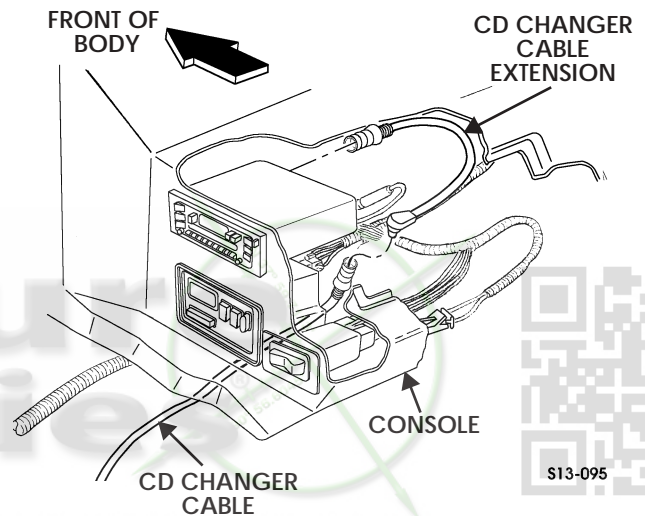

Figure 13-124: CD Changer Cable
**Compact Disc (CD) Changer Cable (Standard Four-Door Vehicles)**
7. Disconnect the CD changer cable from the radio/compact disc player in the instrument panel (Figure 13-124).
1. Connect the CD changer cable to the radio/compact disc player in the instrument panel (Figure 13-124).